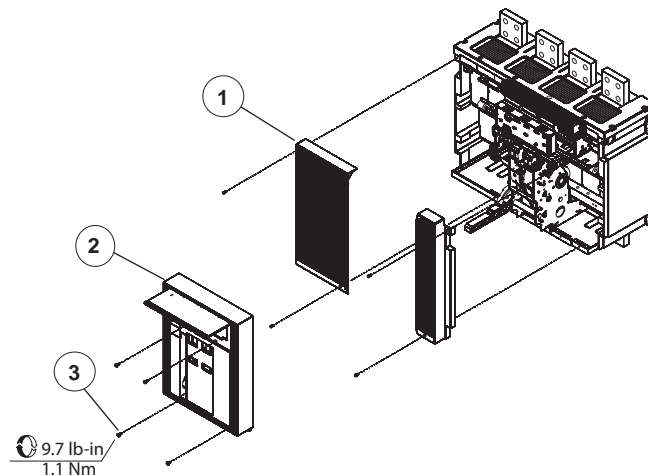

Fig. 25
- Re-assemble the circuit-breaker cover and side guards as shown in figure 25.